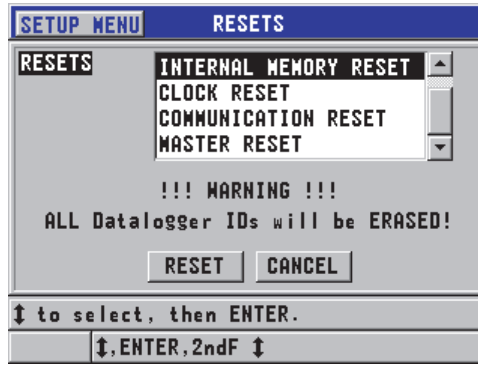

Figure 6-33 Warning message when resetting measurements
2. In the **RESETS** screen (see Figure 6-33 on page 124):